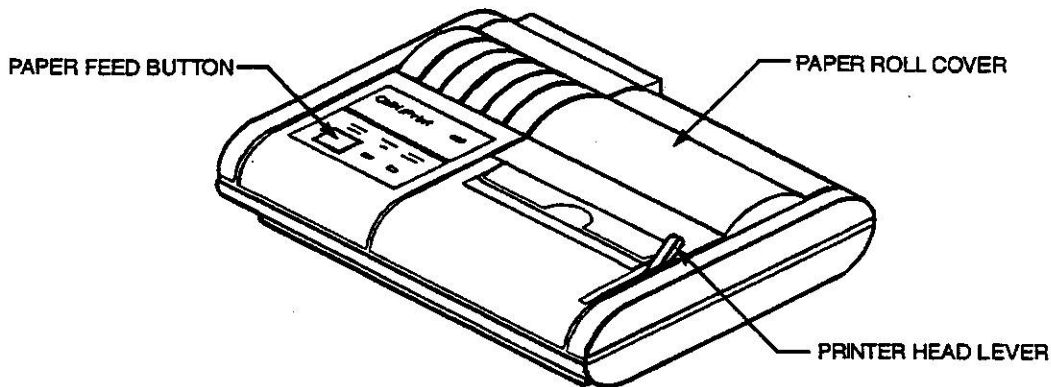

Figure 1-10. Loading Printer Paper
2. Open the paper roll cover (see Figure 1-10). Place the printer paper in the curve of the paper roll cover, with the paper rolling off the bottom of the roll toward the printer. Insert the paper under the rubber platen until the edge appears on the top of the platen.